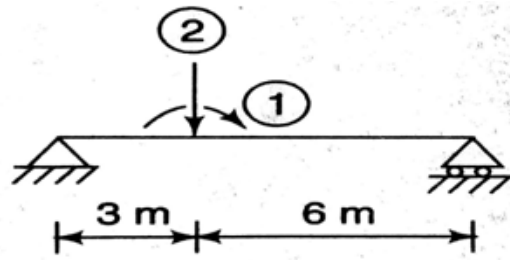

Figure 3
- (b) Develop the stiffness matrix for prismatic member AB with hinged support at A and roller support at B as shown in figure 3. [7 M]